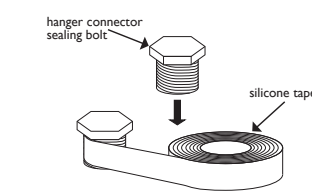

Fig. 4.5
11. If applicable; use silicon tape to thoroughly wrap and seal the hanger connector sealing bolt (fig. 4.5). For hanger connector sealing bolts equipped with an o-ring or gasket, silicone tape is not needed.